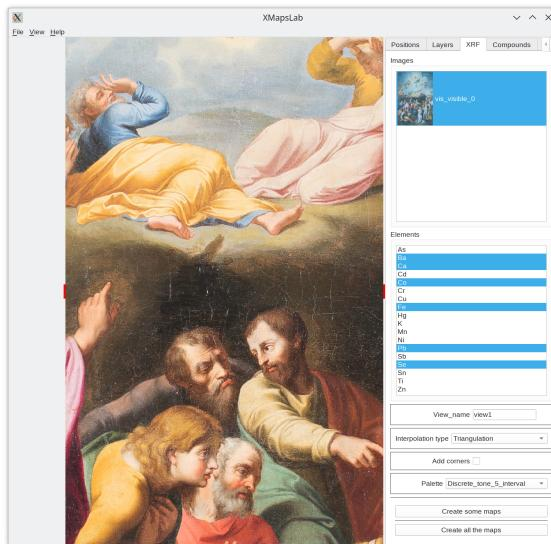

Figure 5.18: The parameters of the Triangulation method are shown.
* **Triangulation (Figure 5.18)**